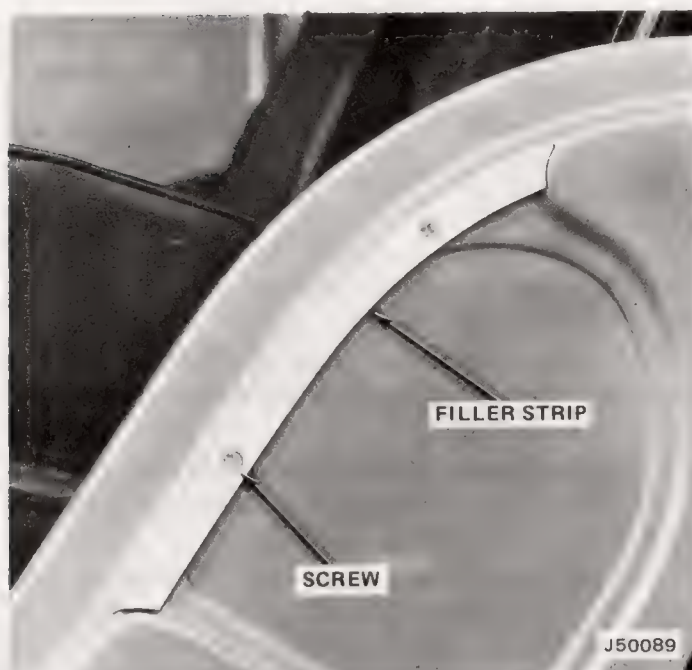

Fig. 2-21 Filler Strip Installed
(1) Position filler strip on LH body panel (fig. 2-21). Use filler strip as template and mark two holes locations.